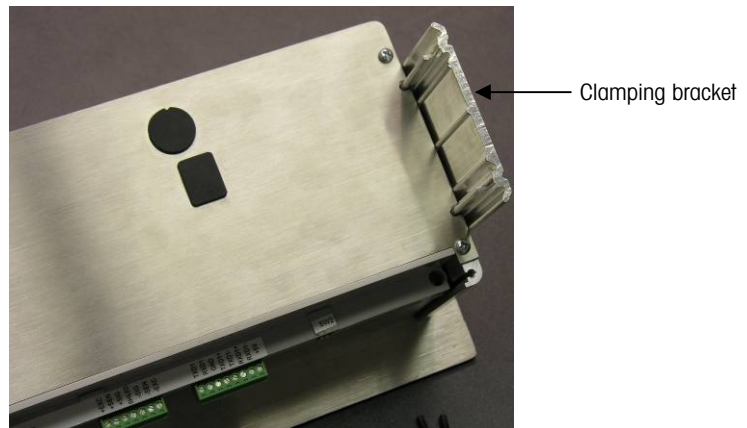

Figure 2-3: Clamping Brackets
1. Loosen and remove the four Allen-head screws that secure the clamping brackets to the side of the housing (see Figure 2-3). Use the 2mm Allen wrench included with the terminal.